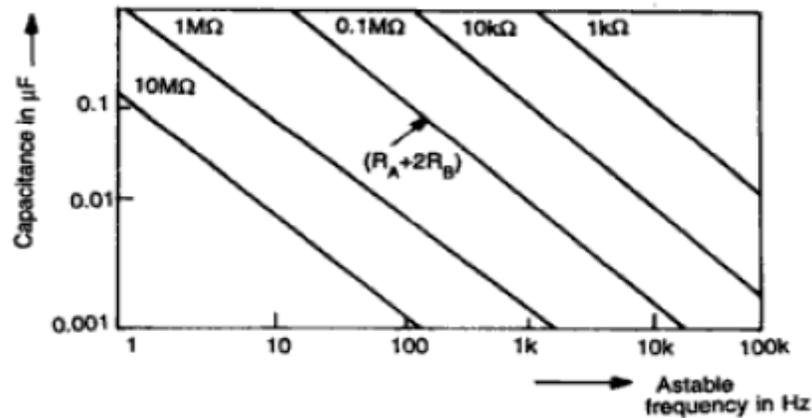

Figure 18: Frequency dependence of R_A , R_B and C
- Fig. 18 shows a graph of the various combinations of $(R_A + 2R_B)$ and C necessary to produce a given stable output frequency.